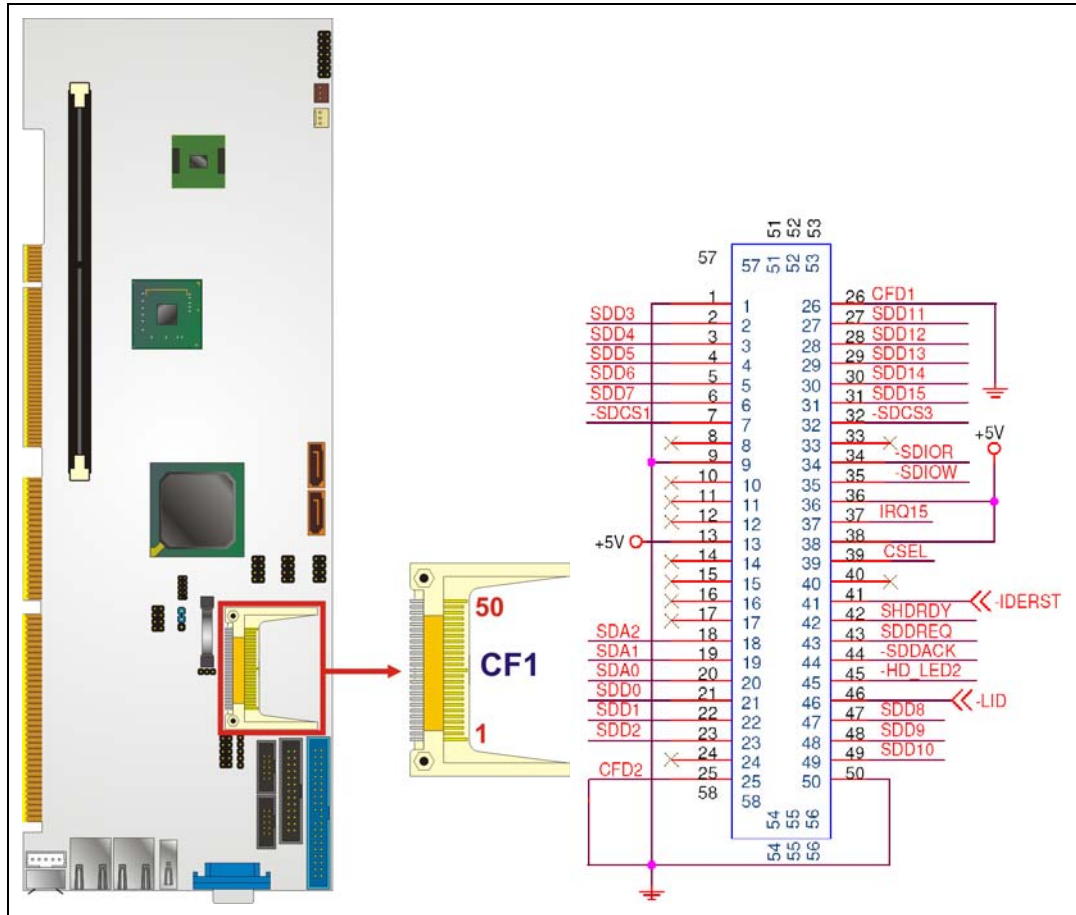

Figure 4-4: CF Card Socket Location
- CN Location:** See Figure 4-4